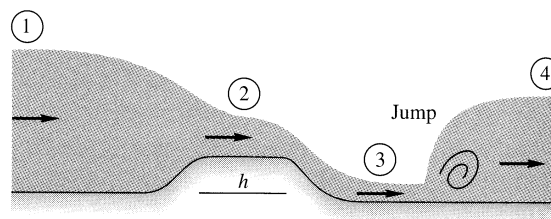

Fig. P10.93
**10.93** Water in a horizontal channel accelerates smoothly over a bump and then undergoes a hydraulic jump, as in Fig. P10.93. If  $y_1 = 1$  m and  $y_3 = 40$  cm, estimate (a)  $V_1$ ; (b)  $V_3$ ; (c)  $y_4$ ; and (d) the bump height  $h$ .
**10.94** For the flow pattern of Fig. P10.93, consider the following different, and barely sufficient, data. The upstream velocity  $V_1 = 1.5$  m/s, and the bump height  $h$  is 27 cm. Find (a)  $y_1$ ; (b)  $y_2$ ; (c)  $y_3$ ; and (d)  $y_4$ .